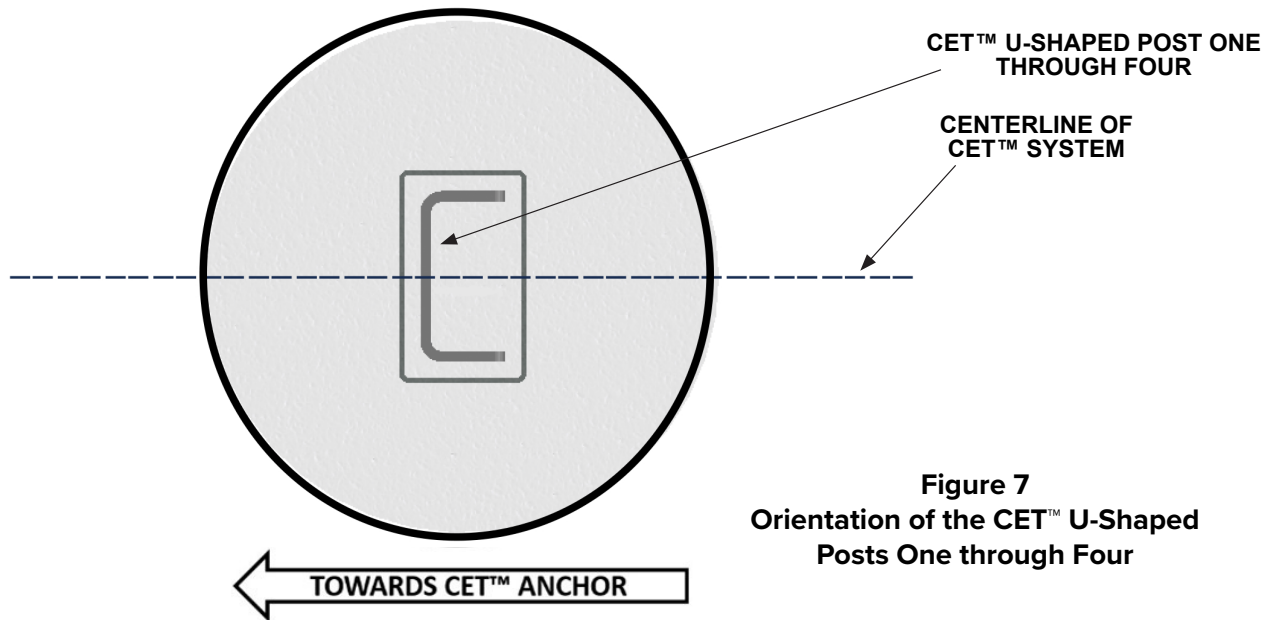

Figure 7
2. Insert the CET™ U-Shaped Posts in sleeves: Post One (PN:131671G); Post Two (PN: 131672G); Post Three (PN:131673G); and Post Four (PN: 131674G). The post sleeve cover should cover the sleeve. **See Figure 7 for the orientation of the posts.**